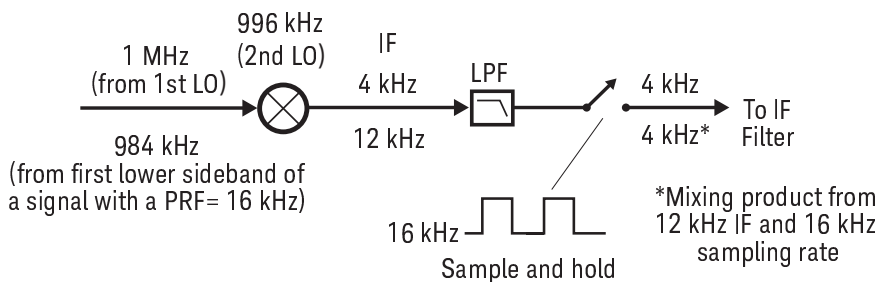

Figure 7. Pulse sidebands are downconverted and sampled by the receiver.
2. The next case is for a PRF greater than the IF BW, but less than the sampling rate of the analyzer's (ADC) analog-to-digital converter. Pulsed measurements are possible as long as the PRF does not generate a sideband at the sampling rate of the analyzer. For the 8753E and 8720E family, the ADC sampling rate is 16 kHz. If any PRF sideband occurs at 16 kHz, it will be downconverted and be sampled by the receiver (Figure 7). There-fore, signals with a PRF of 4 kHz, 8 kHz, or 16 kHz would not be allowed.